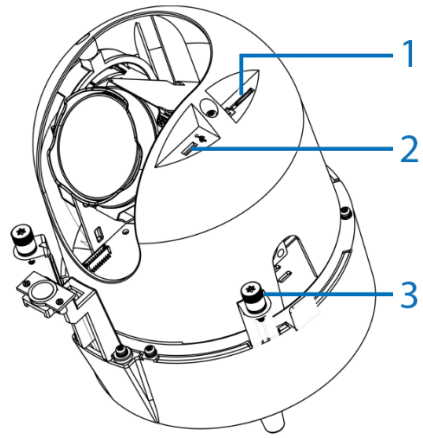

Figure 4
1. Carefully insert (or remove) the micro SD card (1) (Figure 4) into (or from) the camera. **Note:** It is advised that you reboot the camera after inserting the micro SD card.
Note: The USB cable connection slot (2) (Figure 4) for Wi-Fi configuration is also located next to the micro SD card cover. The Wi-Fi option allows wireless configuration of the camera at the point of install in conjunction with the Illustra Tools app (Illustra Wi-Fi dongle required).
10. Screw the three captive fasteners (3) (Figure 4) to **fully** secure the camera to the camera housing.